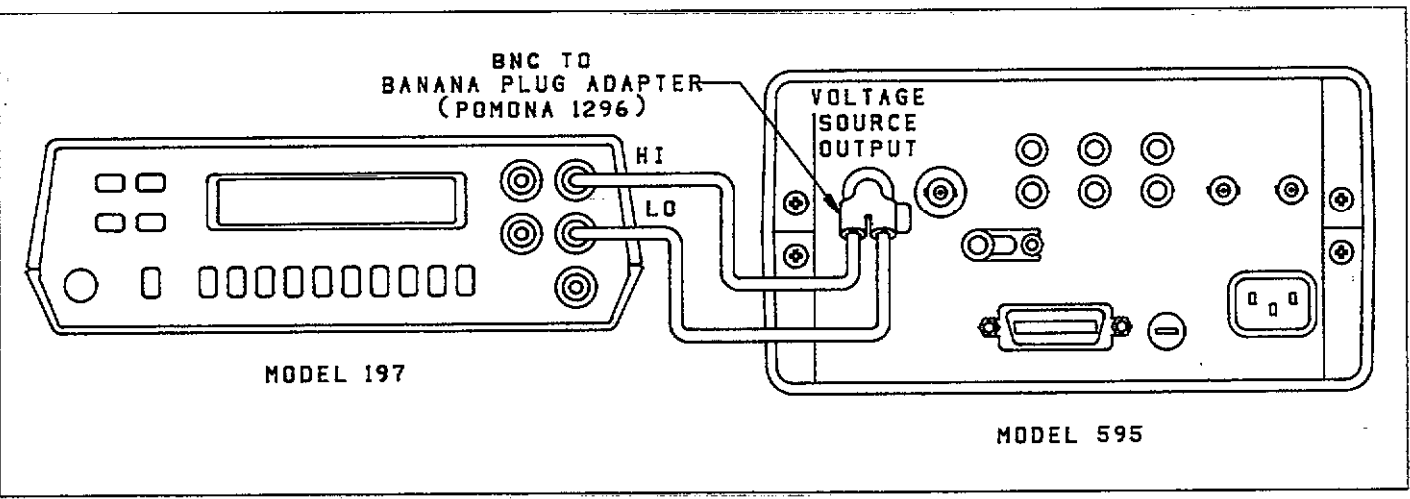

Figure 8-4. Voltage Source Output Calibration Setup
1. Connect the DMM to VOLTAGE SOURCE OUTPUT, as shown in Figure 8-4.